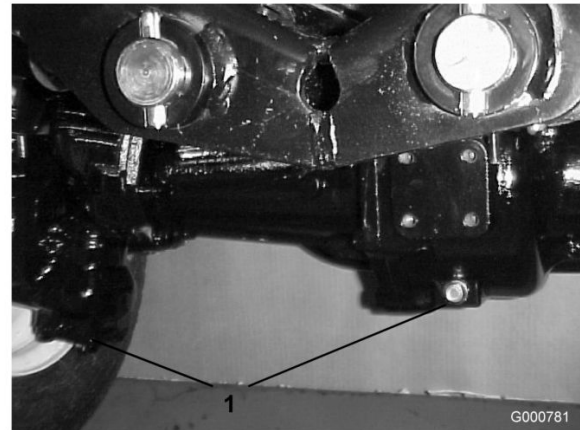

Figure 68
2. Clean the area around the 3 drain plugs, 1 on each end and 1 in the center (Figure 68).